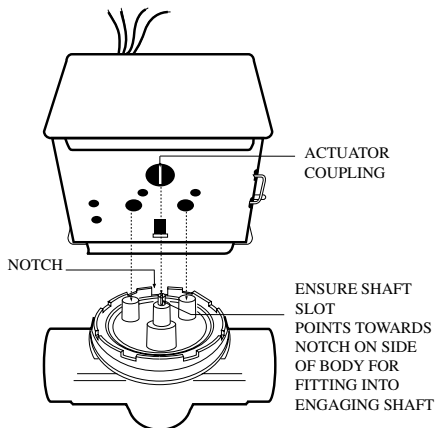

Fig. 2 Installing new actuator.
1. ***Orient slot in shaft of VU-series valve body toward notch in side of body (i.e. 90° to water flow.) See Fig. 2.*** This lifts the ball off seat, prevents damage to the ball seal while soldering, and makes actuator attachment easier.
5. Line up motor coupling to slot in shaft of body and fit the head onto the valve body, ensuring that the shaft seats correctly. (See Fig. 2)